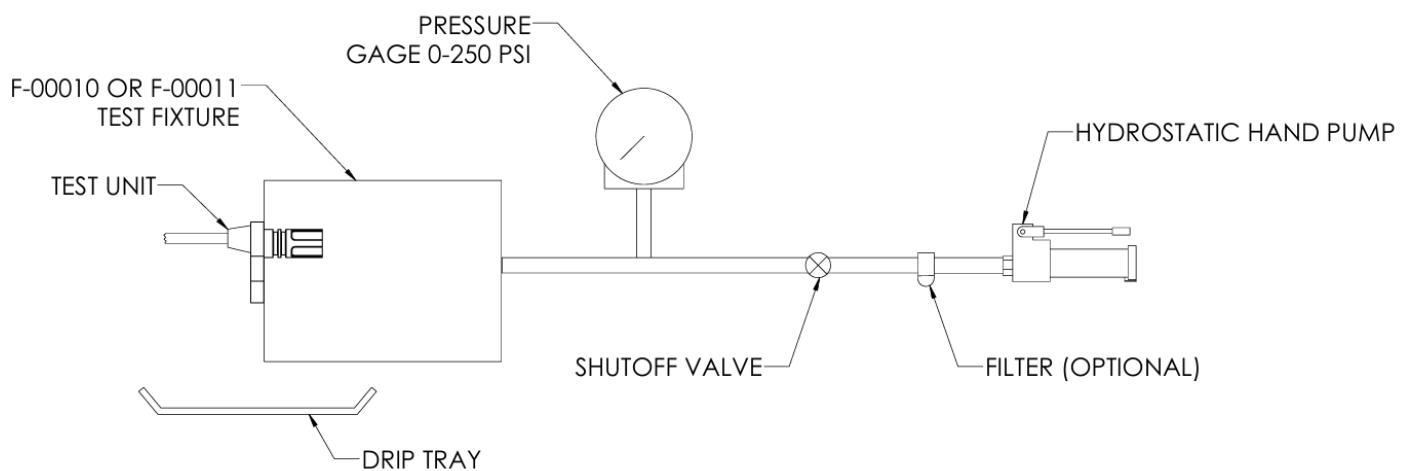

FIGURE 1: EXTERNAL LEAKAGE AND PROOF PRESSURE TEST SETUP
- 9.3.2 Create the Test Setup as shown in Figure 1.
- 9.4.2 Create the Test Setup as shown in Figure 1.